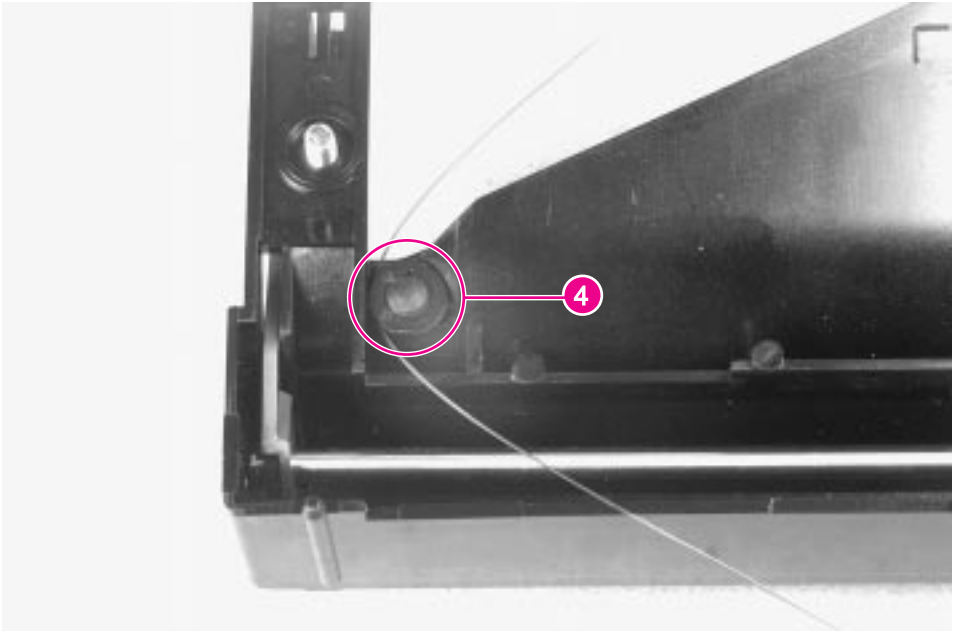

Figure 6-79 Mailbox with Stapler, Anti-Curl String Middle Connection
- 7** Remove the strings from the pulleys at the back of the Delivery Head by rotating the flat side of the pulley toward the outside of the frame (figure 6-79 on page 248, callout 4).